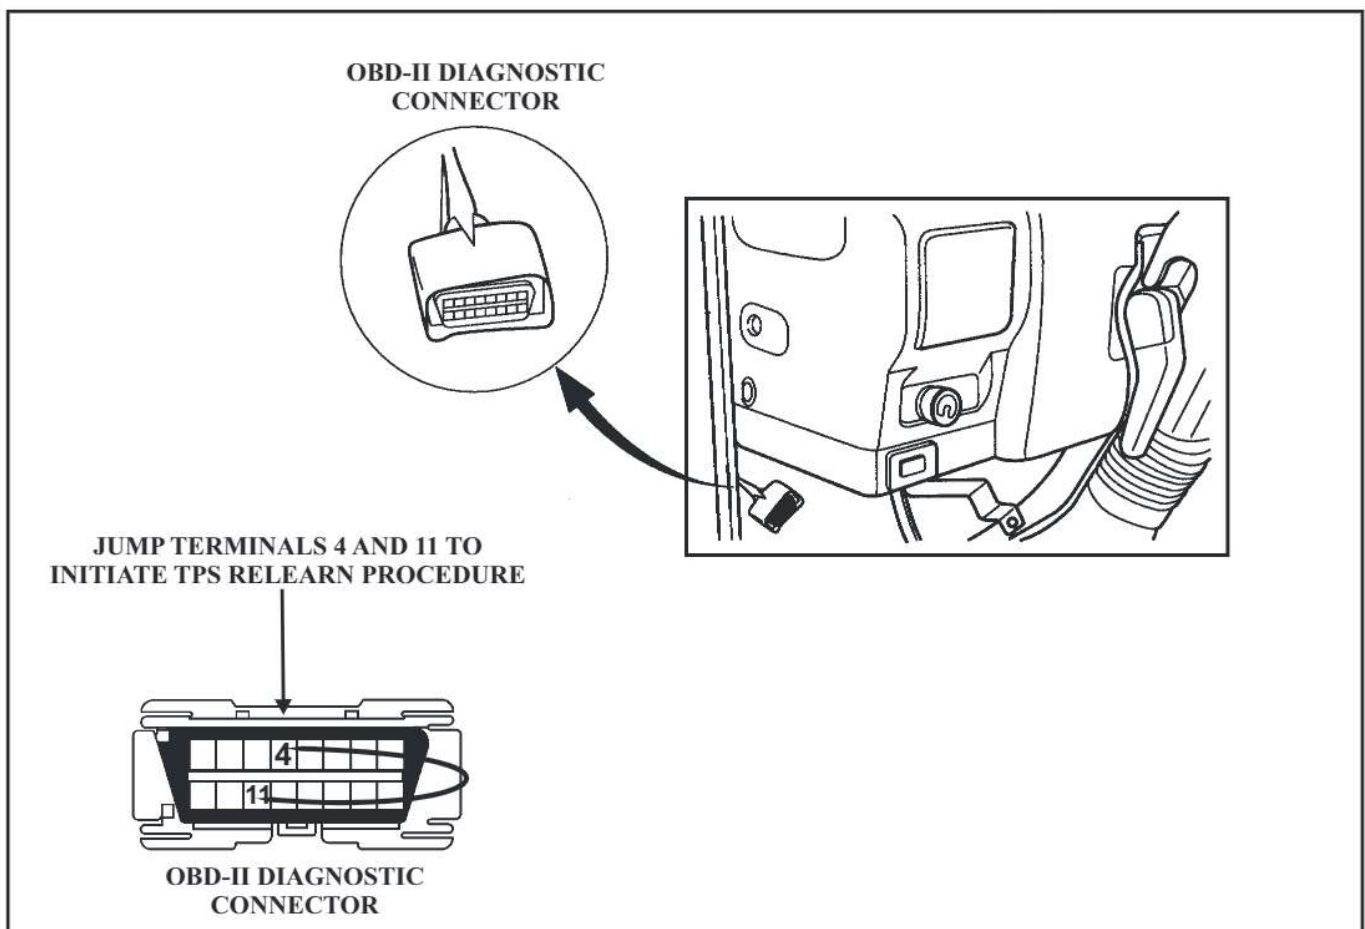

Figure 29
2. Connect terminals 4 and 11 of the Data Link Connector as seen in Figure 29, the "Check Trans" lamp begins flashing at 0.4 second intervals.